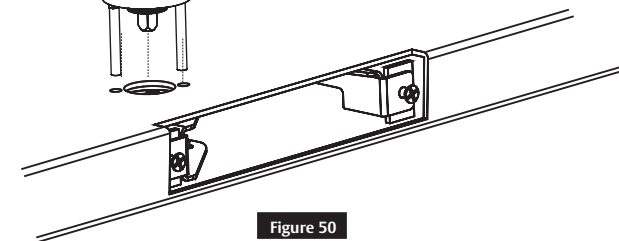

Figure 50
- Insert mortise trim in the door prep and cassette and rotate to verify latches fully retract (Figure 49). Confirm the set screw moves from circle to circle in the LBC viewing window (Figure 50). Do not install the mortise lock at this time.